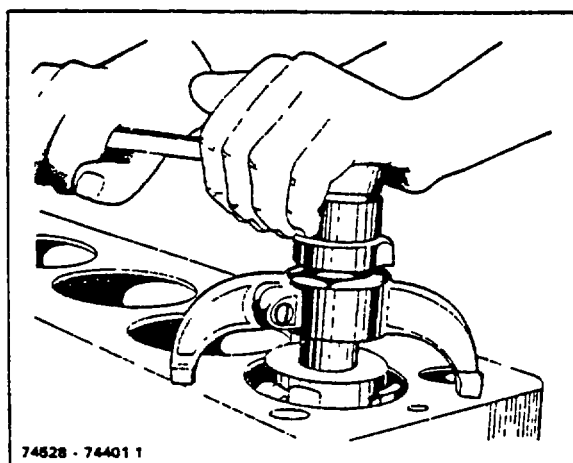

Figure 11-3. Ridge Reaming Top of Cylinder Bore
1. Ridge ream the cylinders to remove the unworn area at the top so that new rings, when assembled, will not bump and distort both themselves and the piston lands (Figure 11-3).